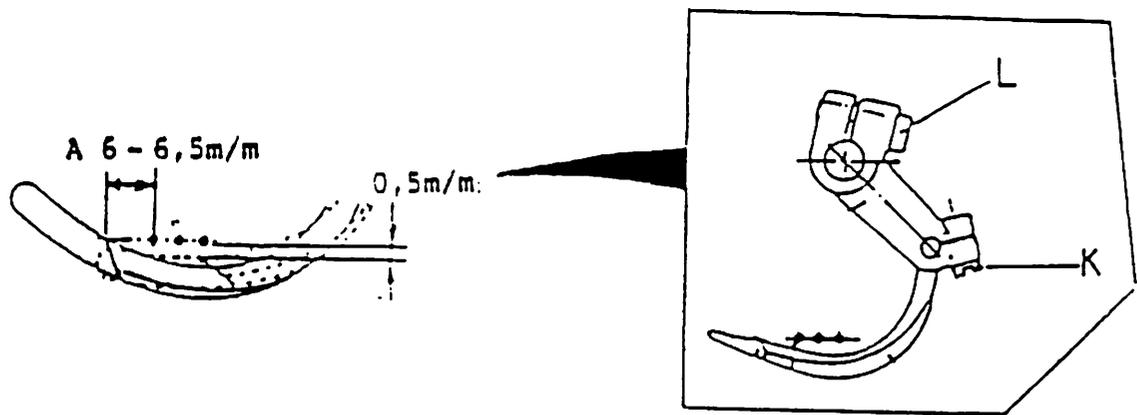

Fig. 18
- c) Position of spreader looper in relation to needles (Fig 18)